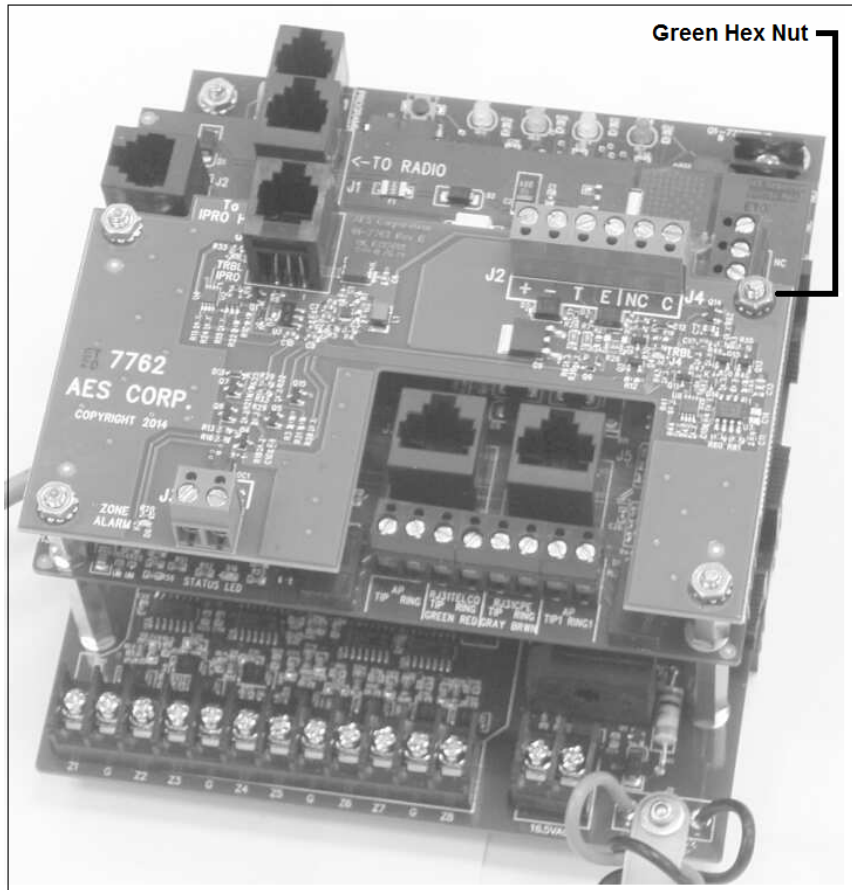

Figure 2.
4. Place the 7762 Hardware Supervisor Card on the 4 installed standoffs. Secure the 7762 with the 4 hex nuts removed. **Important:** Place the green (Earth ground) hex nut on the right center standoff as shown in Figure 2.